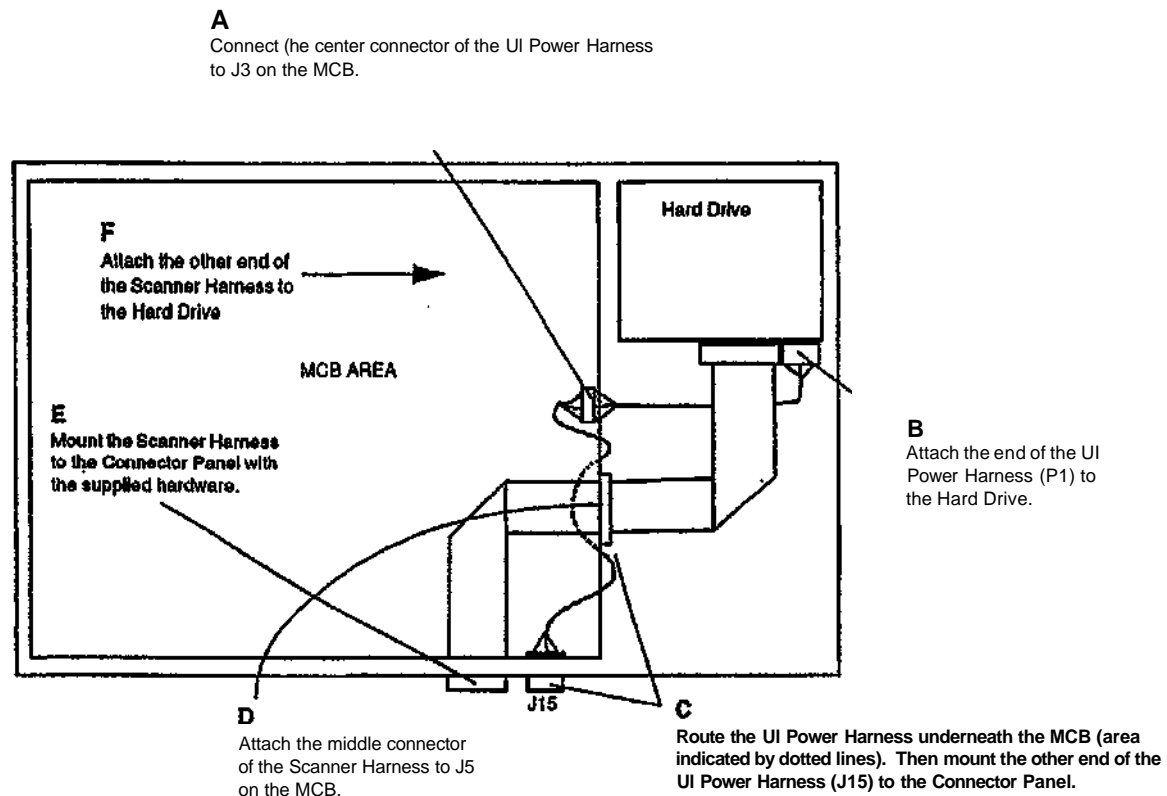

Figure 13 Overhead view of 8830 Controller showing routing of new Scanner and UI Power Harnesses
28. (Figure 13): Route the new Scanner Harness, and UI Power Harness.